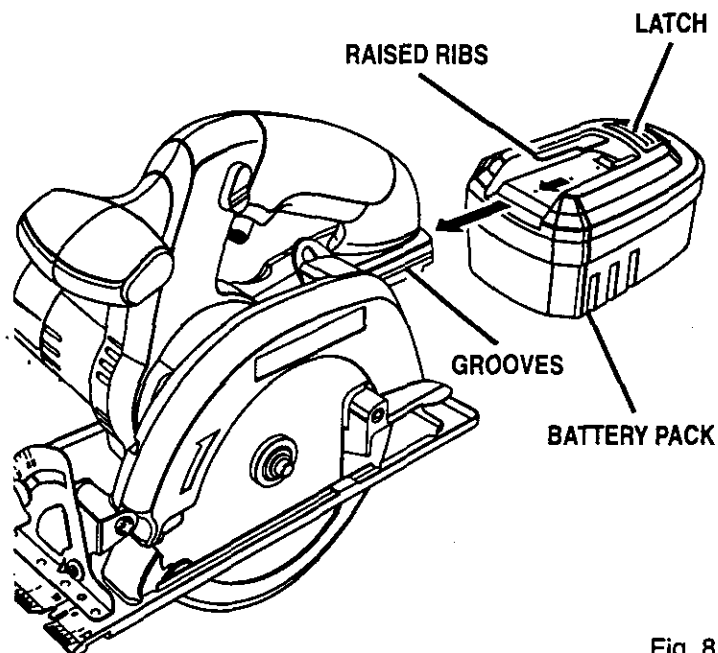

Fig. 8
See Figure 8.
- Align raised ribs on battery pack with grooves on bottom of saw, then attach battery pack to saw as shown in figure 8.